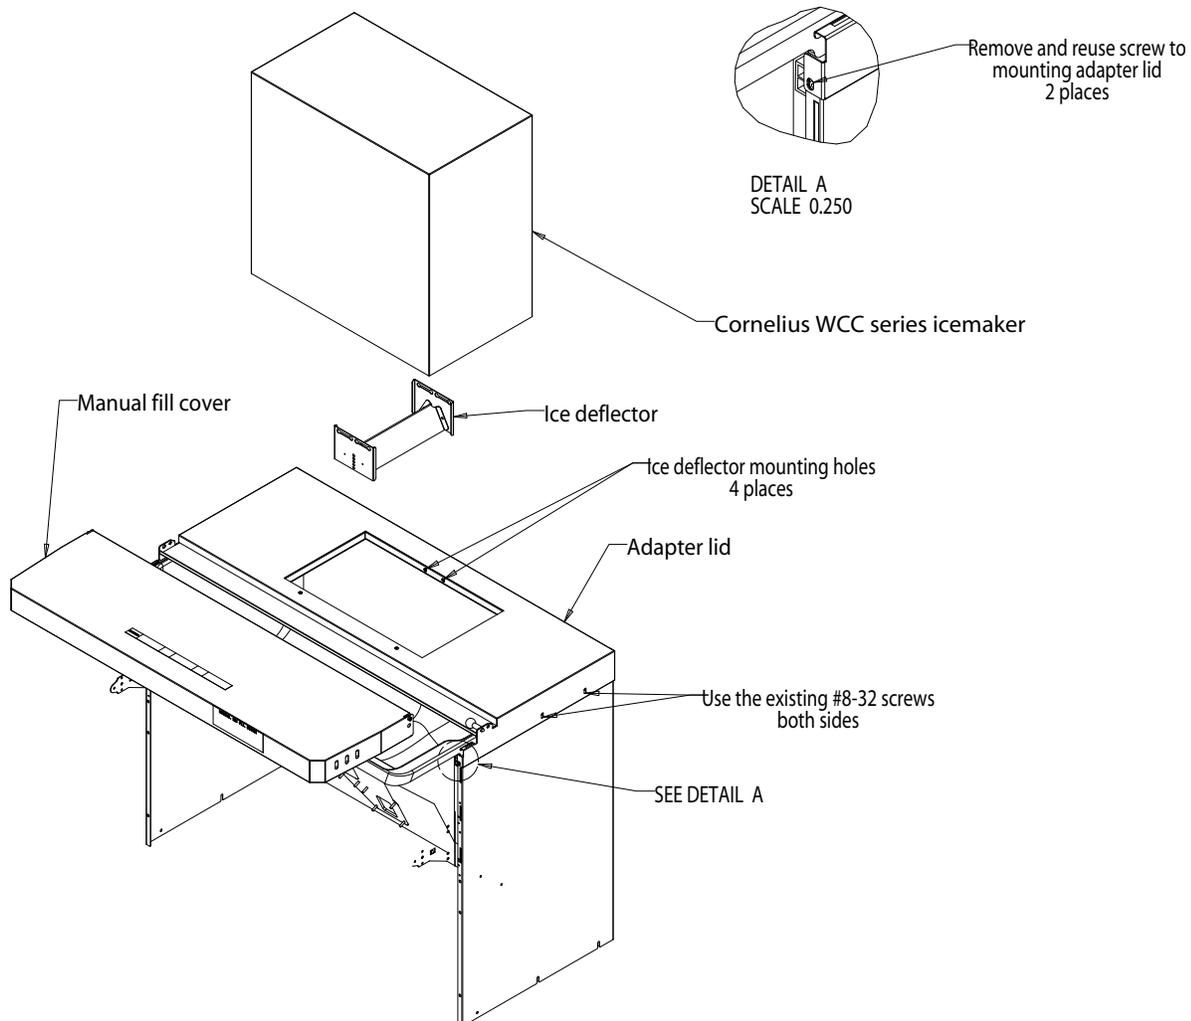

FIGURE 1.
5. Remove and save the front two screws securing the cabinet to the hopper. Set the lid assembly onto the dispenser, see Figure 1.
6. Fasten lid to the dispenser with (4) #8-32 machine screws, (two on each side) and re-install the two front screws that were removed in Step 5, see Figure 1.